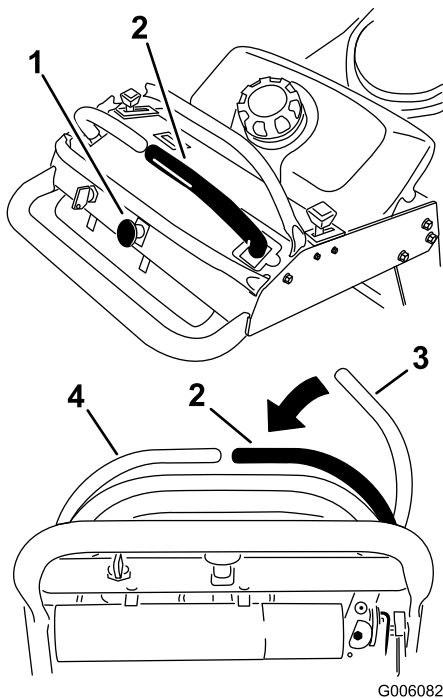

Figure 8
1. To engage the mower blades, move the right motion-control lever to the center, unlocked position (Figure 8).